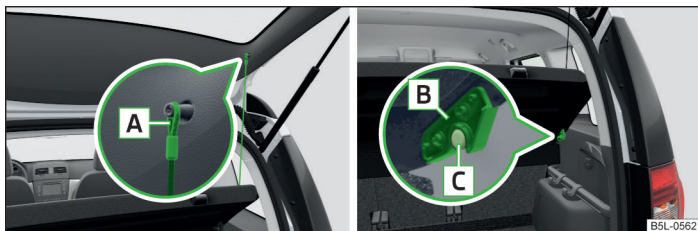

Fig. 82 Secure luggage compartment cover
- Unhook the support straps  » Fig. 82 from the luggage compartment.
- Position the mounts on the cover  » Fig. 82 onto the side trim panel via bolts .
- If the support straps  » Fig. 82 are attached to the boot, then the boot cover will rise as well when the luggage compartment is opened.